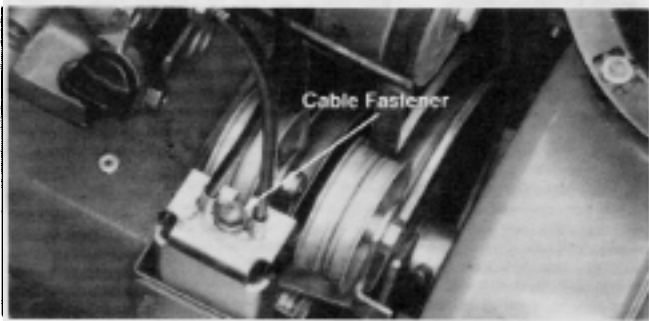

Figure 66
3. Secure both cables with the hex head cap screw and nylon locknut. See Figure 66.